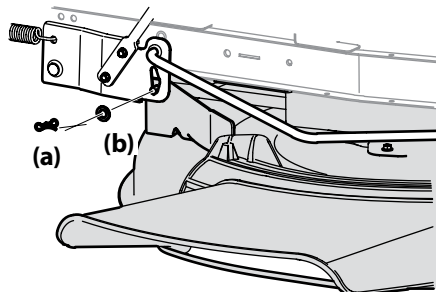

Figure 4-3
3. Remove the bow-tie cotter pin (a) and flat washer (b) from the deck lift assembly, and retain for reinstallation later. See Figure 4-3.